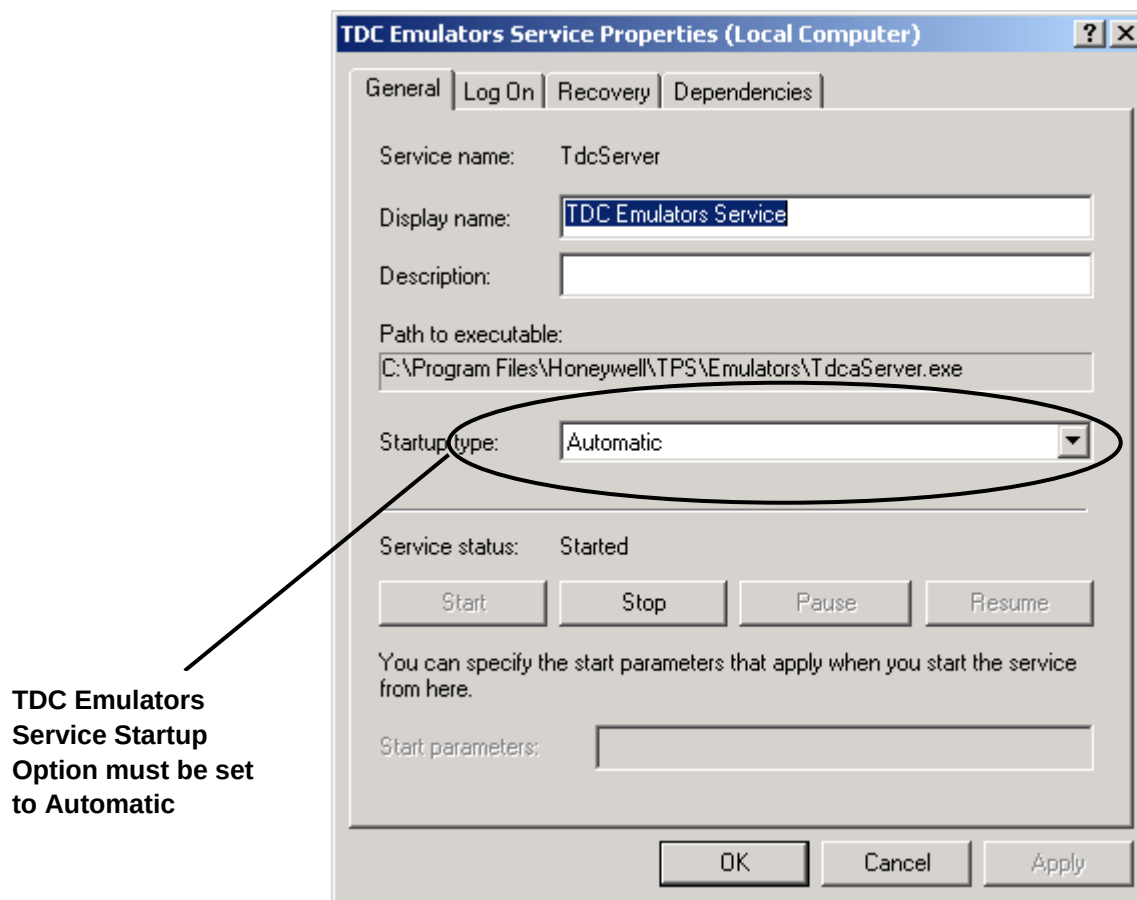

Figure 2.4-2 Automatic Startup option on TDC Emulators Service
2.4.15	If the Startup Type is not Automatic, then select the drop-down menu and change it to Automatic. See Figure 2.4-2 below.